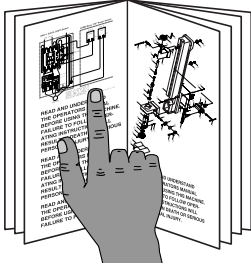

Figure 6. Loosening the exhaust cap screw.
1. Use the 4mm hex wrench to loosen the exhaust cover cap screw as shown in **Figure 6**.